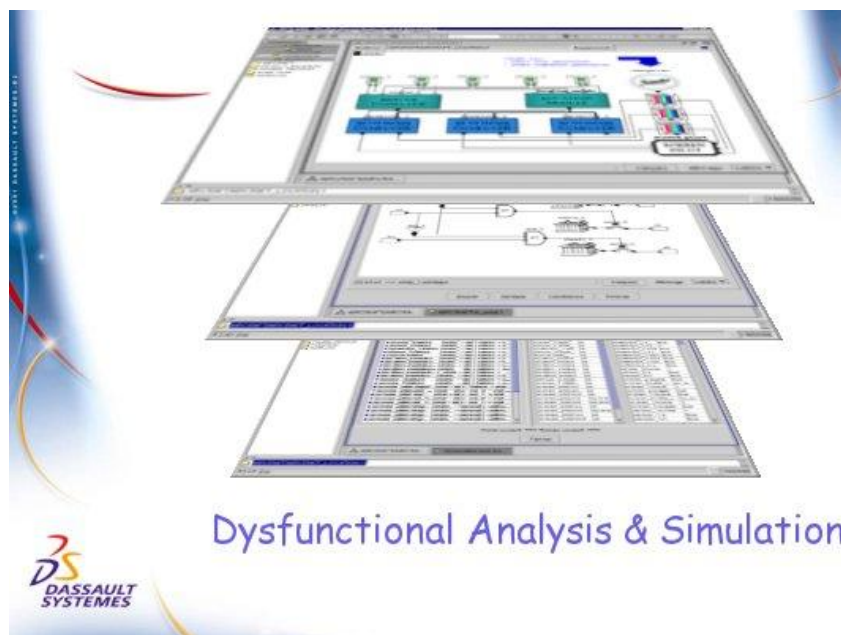

Figure 2 : launching window
- A launching window (Figure 2).